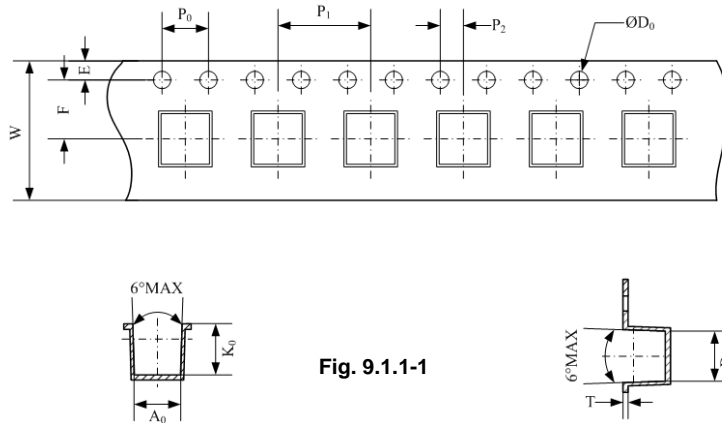

Fig. 9.1.1-1
1) Carrier tape dimensions(Please refer to Fig. 9.1.1-1 and Table 9.1.1-1)